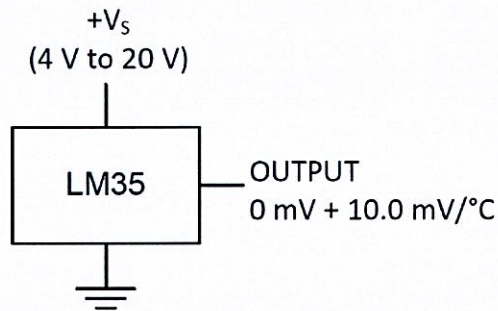

Figure A3 (c) / Rajah A3 (c)
- CLO1 (c) LM35 shown in Figure A3 (c) is used as analog input for ADC in PIC18. This 12-bit ADC is used with settings of $V_{ref-} = 0\text{ V}$ and $V_{ref+} = 4.096\text{ V}$. Based on the information given, calculate ADC output, D_{out} if output from LM35 is 15°C and 45°C .